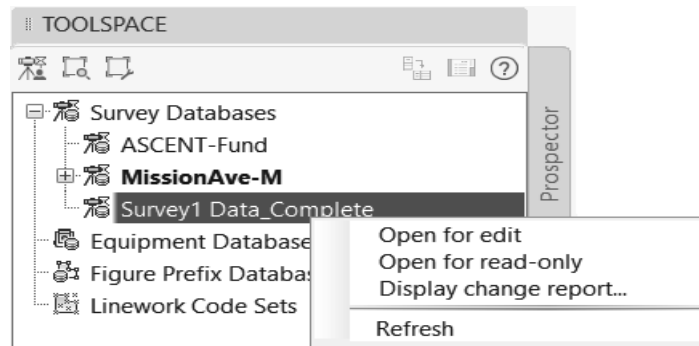

Figure 2–33
2. Select the survey database that you want to open, right-click, and select **Open for edit** or **Open for read-only**, as shown in Figure 2–33, depending on your requirements. Contrary to most Civil 3D functions where double-clicking invokes an edit function, double-clicking on a survey database will open it as read-only.